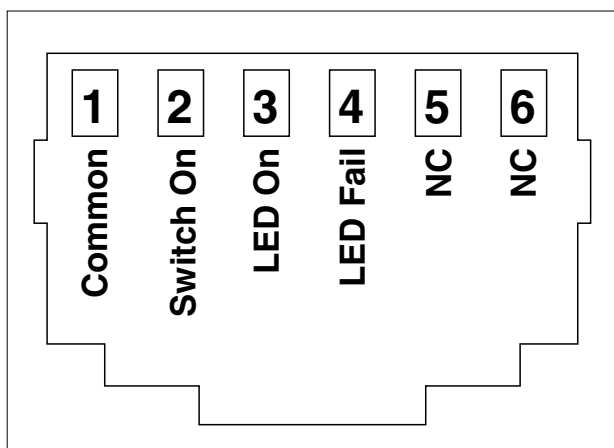

Figure 11: RJ 12 connector with pin signals
See figure 11. Install the AC Power Analyser, proceed as follows:
3. Connect the RJ12 communication cables to your inverter (if applied). Figure 11 shows which pin provides which signal.
7. Integrate a fuse that is appropriate for your cabling, in both AC wires and connect the AC cables to the AC input (fig.11 point 1). Insert the AC plug with cover, included in the package.
At least one in three MasterBus devices must be MasterBus powering. If AC is available at the input (figure 11, point 1), the AC Power Analyser is MasterBus powering.